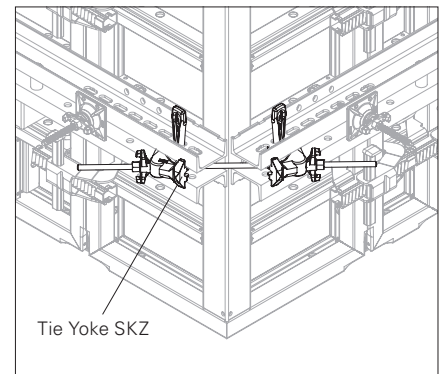

Fig. E1.06c
The outside corner can also be implemented with the Tie Yoke SKZ (article no. 024210) instead of the waler stop (86) and anchor tie yoke (87). For assembly, see the Instructions for Assembly and Use for VARIO GT 24 Girder Wall Formwork. (Fig. E1.06c)